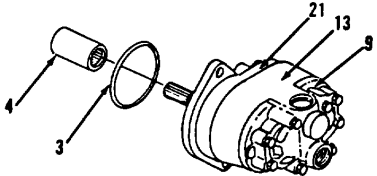

Figure 10-12.
- 86. Install coupling (4) and new preformed packing (3, Figure 10-12).